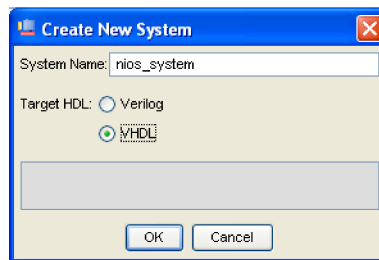
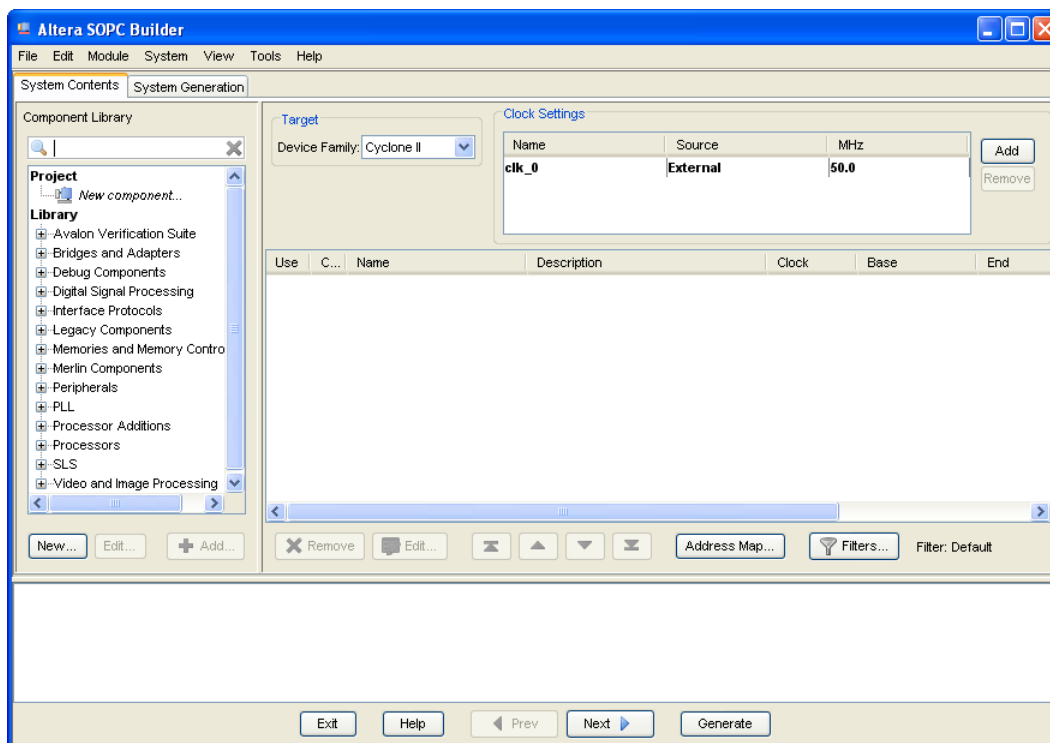
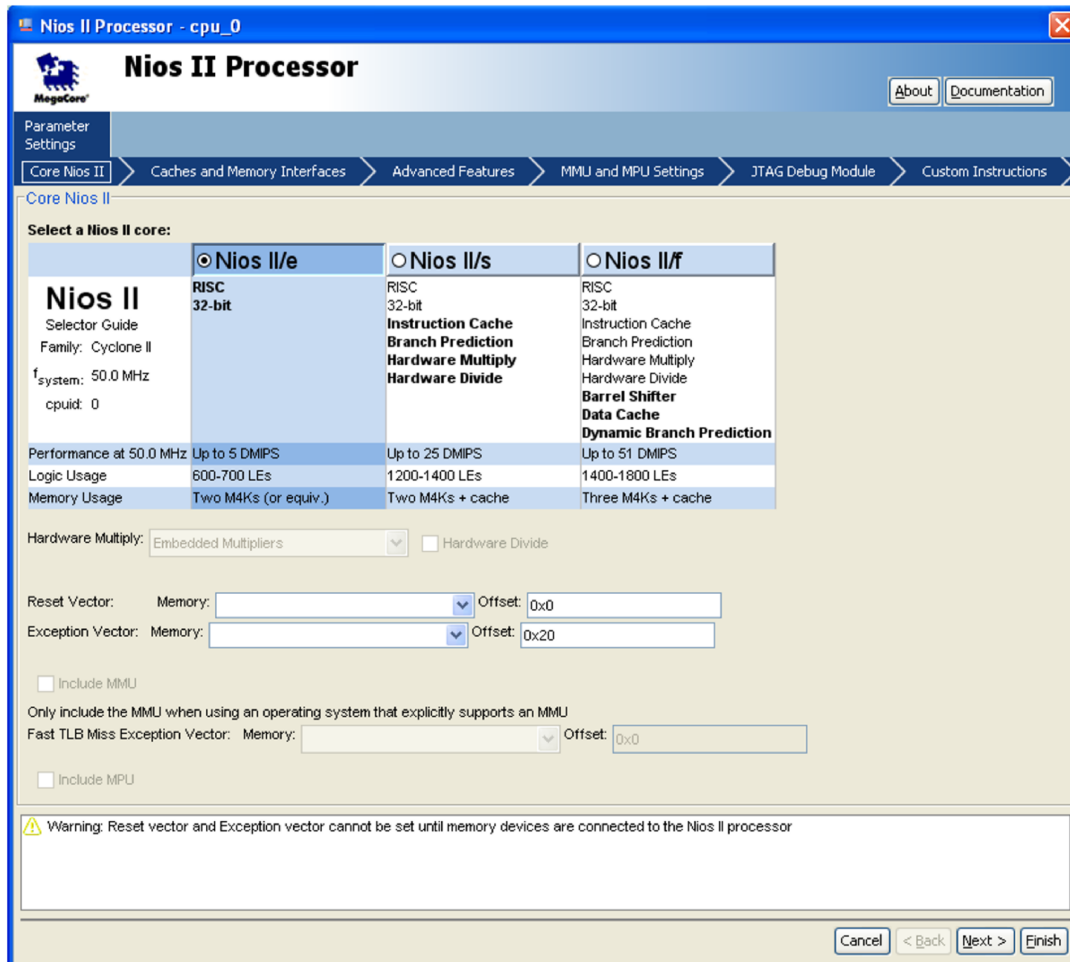
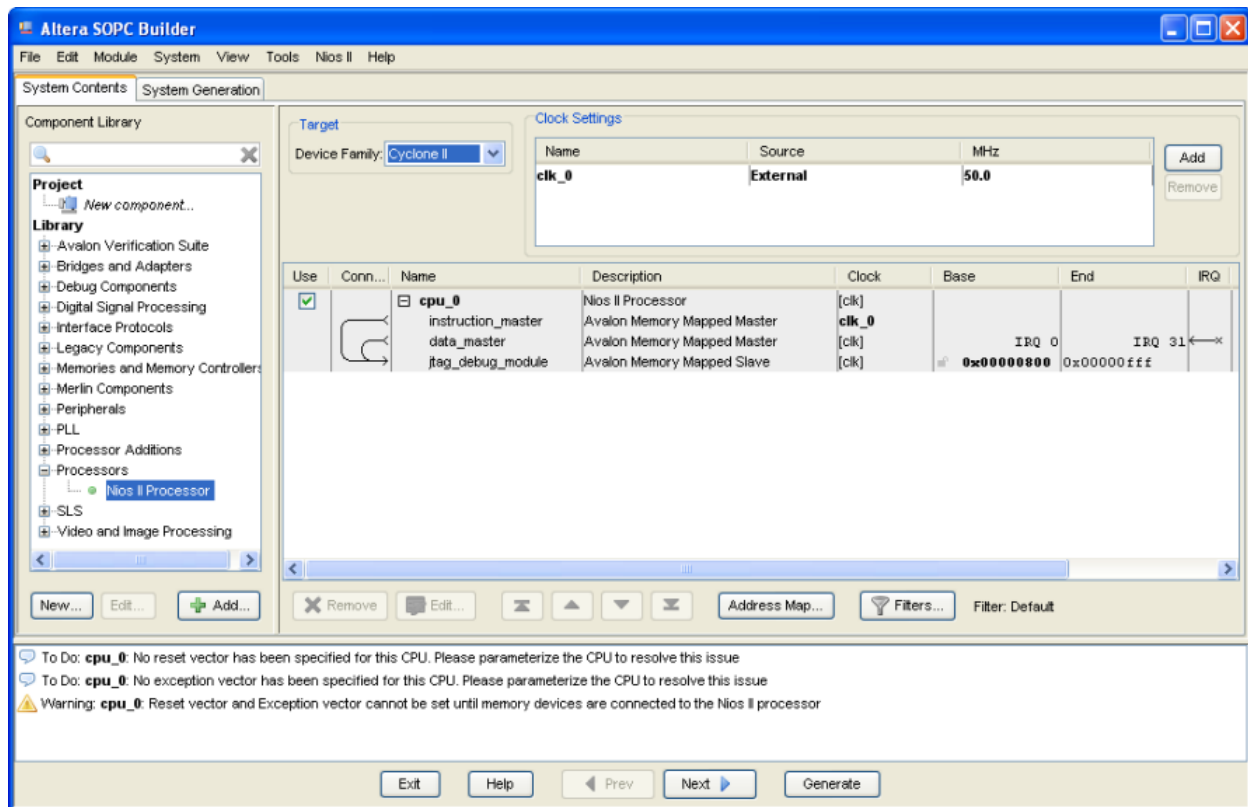

Figure 4. Create a new Nios II system.
Figure 5. The System Contents tab window on a DE-series board.
Figure 6. Create a Nios II processor.
Figure 7. The defined processor on a DE-series board.
2. Select Tools > SOPC Builder, which leads to the pop-up box in Figure 4. Enter *nios_system* as the system name; this will be the name of the system that the SOPC Builder will generate. Choose VHDL as the target HDL, in which the system module will be specified. Click OK to reach the window in Figure 5. Quartus may recommend you to use Qsys. Click OK to proceed.
- Figure 5 displays the System Contents tab of the SOPC Builder, which is used to add components to the system and configure the selected components to meet the design requirements. The available components are listed on the left side of the window. Before choosing our components, examine the area in the figure labeled **Target**. Check the setting for the **Device Family** and ensure that the correct family is selected for the DE-series board. Table 1 lists the device families associated with DE-series boards.
- The Nios II processor runs under the control of a clock. For this tutorial we will make use of the 50-MHz clock that is provided on the DE-series board. As shown in Figure 5, it is possible to specify the names and frequency of clock signals in the SOPC Builder display. If not already included in this list, specify a clock named *clk_0* with the source designated as **External** and the frequency set to 50.0 MHz.
- On the left side of the window in Figure 5 expand Processors, select Nios II Processor and click Add, which leads to the window in Figure 6.
- Choose Nios II/e which is the simplest version of the processor. Click Finish to return to the window in Figure 5, which now shows the Nios II processor specified as indicated in Figure 7. There may be some warnings or error messages displayed in the SOPC Builder Messages window (at the bottom of the screen), because some parameters have not yet been specified. Ignore these messages as we will provide the necessary data later.